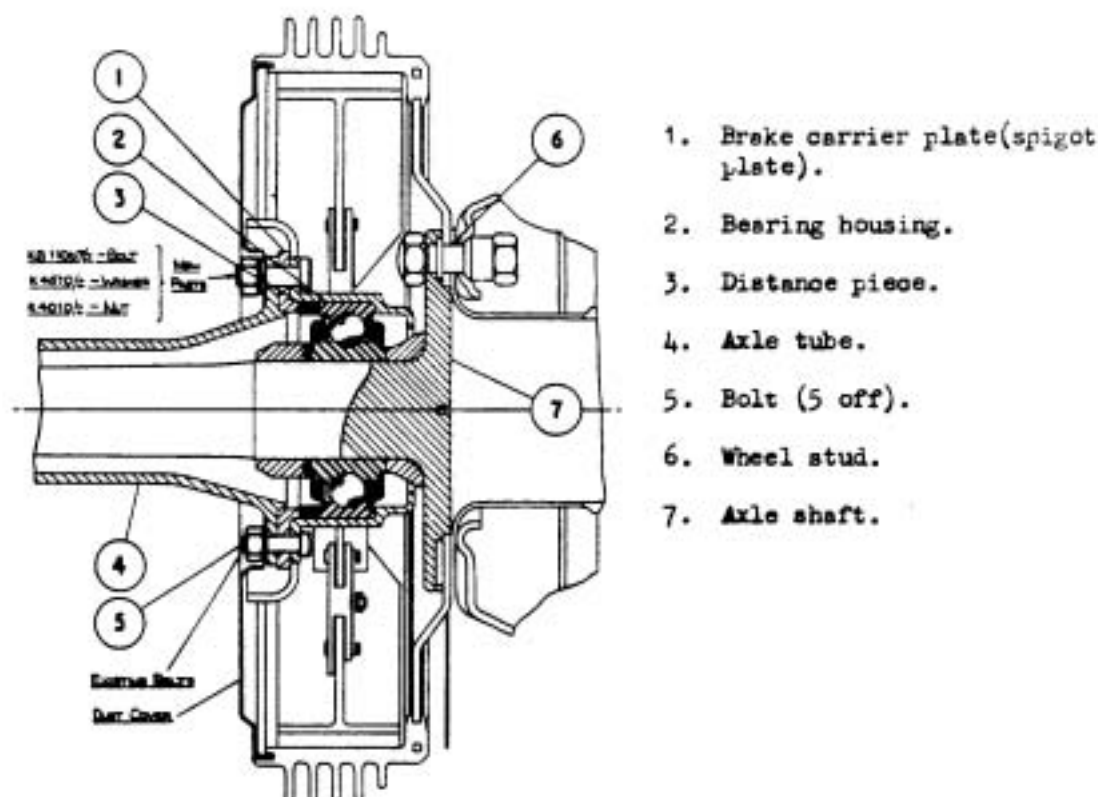

FIG. 1.
It has been decided to fit $3/8"$ diameter bolts as shown on Fig.1, in place of the existing $5/16"$ diameter bolts (5) which retain the rear axle shaft bearing housing (2) and the brake carrier plate (1) to the axle tube. It has also been decided that opportunity should be taken to reverse the equal wear brake linkage of the rear brakes and fit the stiffened linkage which consists of a new push rod and jaw.